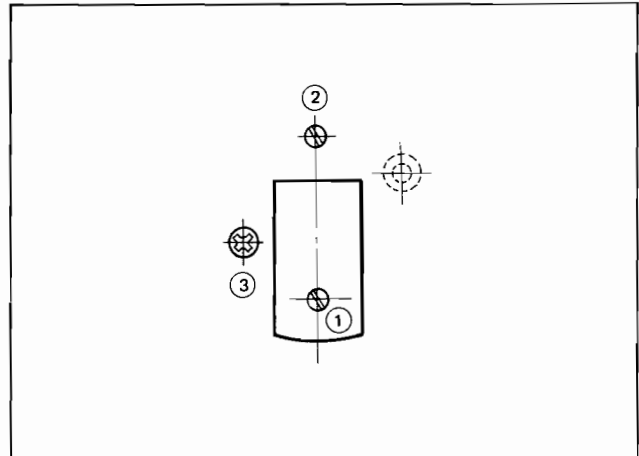

Fig. 5-9. Arrangement of ARP head adjusting screw
4) Azimuth adjustment of ARP head (Figs. 5-9 and 5-10)